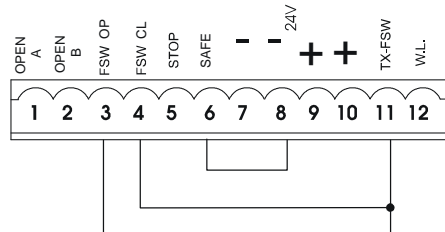

Fig. 26
N.B. If safety devices are not used, jumper connect the terminals as shown in fig. 26.
NB.: If no opening safety devices are connected, jumper connect inputs FSW OP and -TX FSW (fig. 26).
NB.: If no closing safety devices are connected, jumper connect terminals FSW CL and -TX FSW (fig. 26).
NB.: If edge safety devices are not connected, jumper connect the SAFE and - inputs (fig. 26).